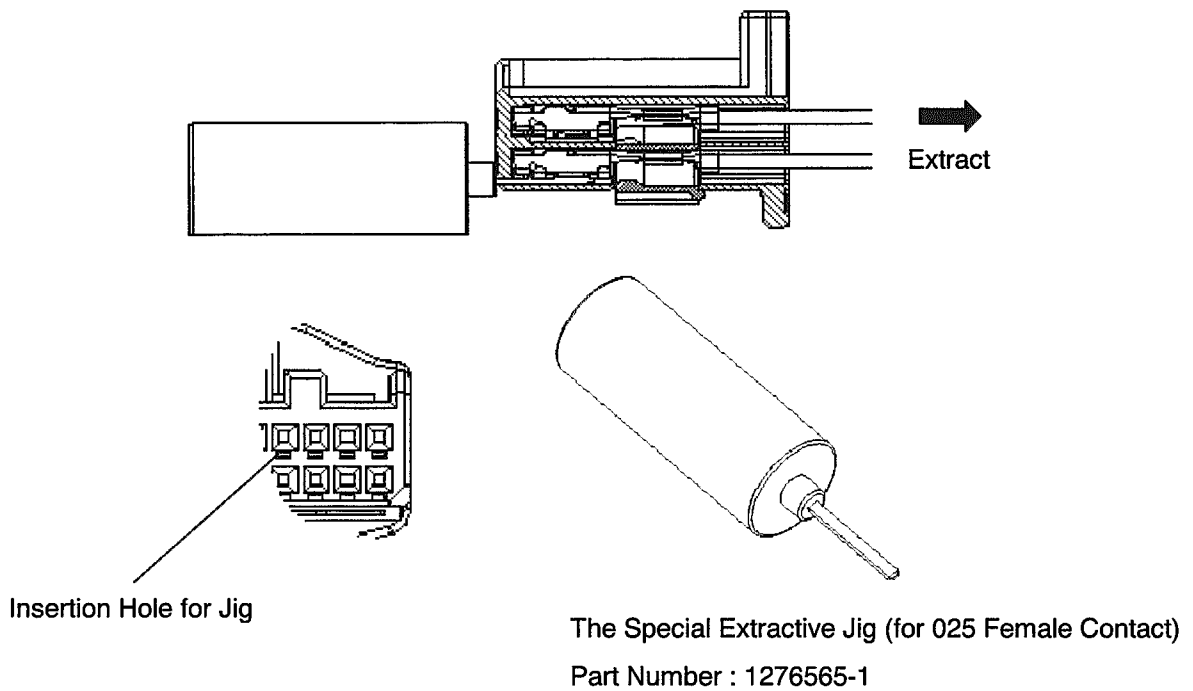

Fig.12
- (1) Confirm the retainer is in pre-assembled condition. When the retainer is in final lock condition, it must be changed to pre-assembled condition. See para.6.3. The female contact can not be extracted in final assembled condition.
- (2) In the case of 025 female contact, insert the special extractive jig(Part Number:1366865) into the proper hole to the end, remove the loaded contact from housing while pull the crimped wire. See Fig.12.
(3) In the case of 025 male contact, insert the special extractive jig (Part Number:1366865) into the proper hole to the end, remove the loaded contact from housing while pull the crimped wire. See Fig.12.